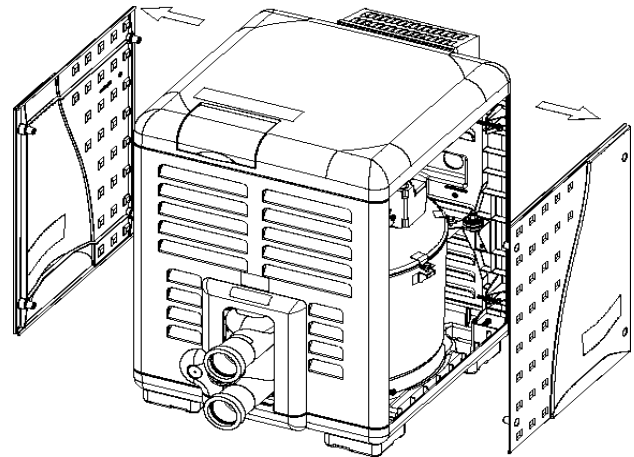

FIGURE 3: Removal of Access Door Panels
5. Remove the access door panels by unfastening the four 1/4-20 phillips head screws located on each door, then lift up and out from the bottom of the panel to remove. If necessary, the screws may be used as handles. See Figure 3.
7. Wait five (5) minutes to clear out any gas. If you then smell gas, STOP! Follow "B" in the "Before Startup" instructions (Page 4). If you don't smell gas, go to the next step.
3. Remove the access door panels. See Figure 3, page 5.